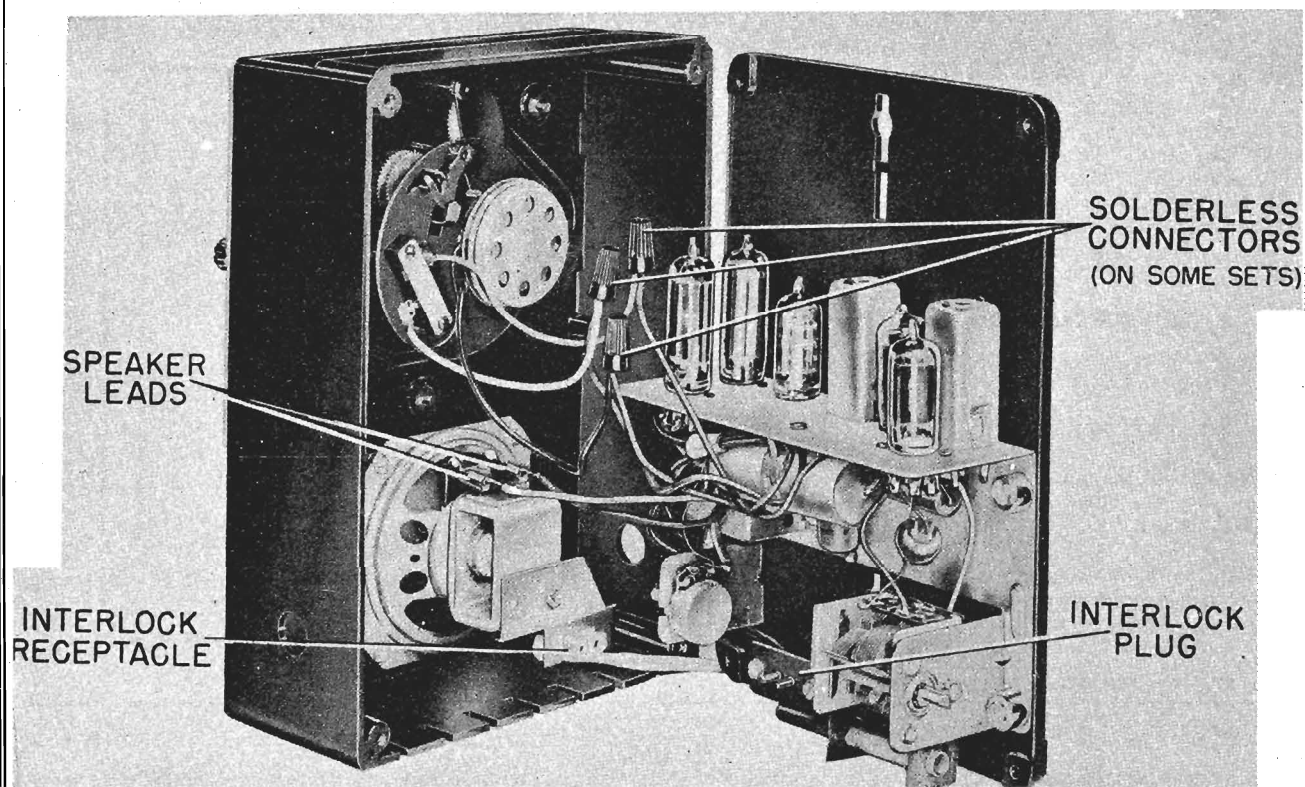

FIGURE 3. BACK COVER REMOVAL
3. Pull off the back cover. See Figure 3.